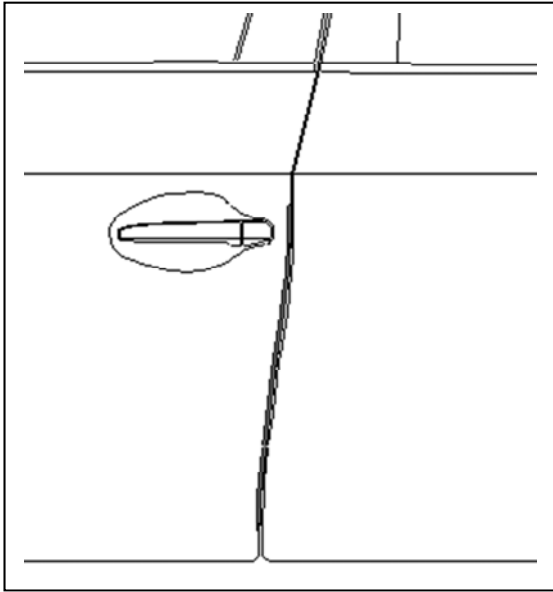

Fig. 2-7
- (h) Carefully close the door and visually ensure the DEG has sufficient clearance from the adjoining body panels (Fig. 2-7). Carefully remove the template from the door and retain for use on the passenger side.